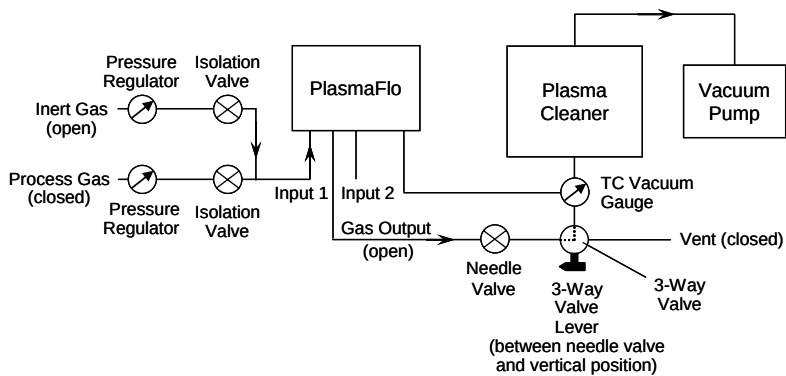

Figure 11 • A Possible Configuration for Inert Gas Purge in the Plasma System
The inert gas line should be connected immediately after the process gas regulator output to flush out as much of the process gas line as possible. A possible configuration for connecting the inert gas line to the process gas line in conjunction with the plasma system is shown in Figure 11 as an example. For safe gas handling equipment and procedures specific to your process gas, please further consult with your process gas supplier.
- Partially open the 3-way valve to inert gas (lever is intermediate to needle valve and vertical position, Figure 11). If using the optional PlasmaFlo, the pressure should quickly increase.